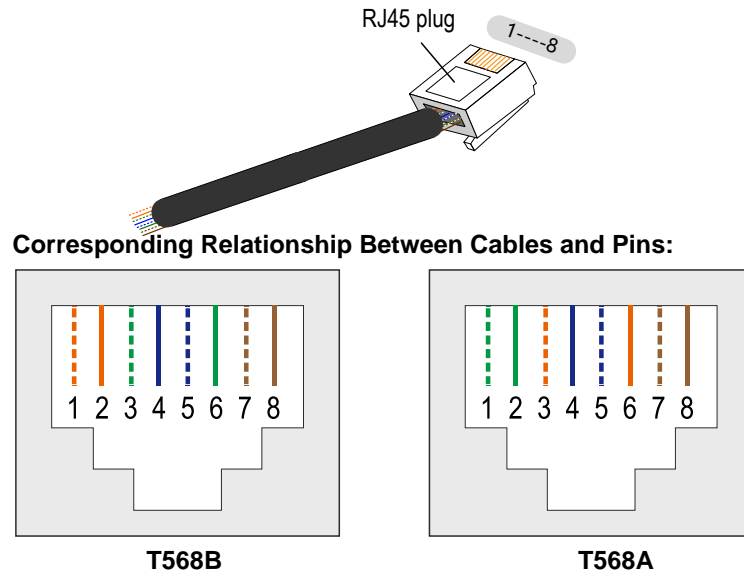

Figure 2 Colour cable order for GCL Ethernet cable
Step 2: Pinch the wires between your fingers and straighten them out. Carefully push all 8 unstripped coloured wires at one end into the RJ45 plug as shown for T568B and T568A (Figure 2).